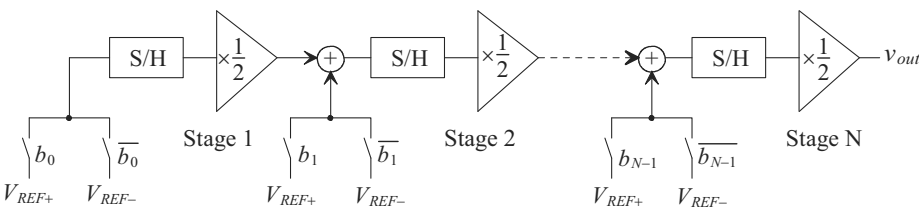

Figure 30.82 A pipeline digital-to-analog converter.
- 30.25** Figure 30.82 shows the implementation of a pipeline DAC. How would we implement this DAC using a topology similar to Fig. 30.42? Sketch the DAC's implementation and the timing signals (clock phases) used.